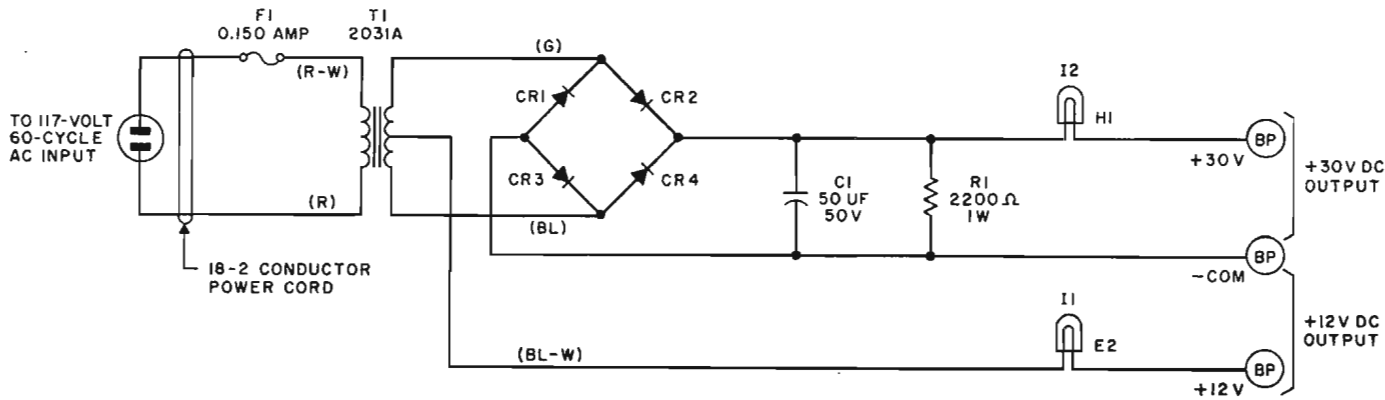

Fig. 4 — J87202A, List 1 Rectifier Schematic
5.01 Rectifier maintenance is limited to checking for and replacing a blown fuse (Fig. 4). If fuses check okay and rectifier fails to put out required voltages, replace rectifier.